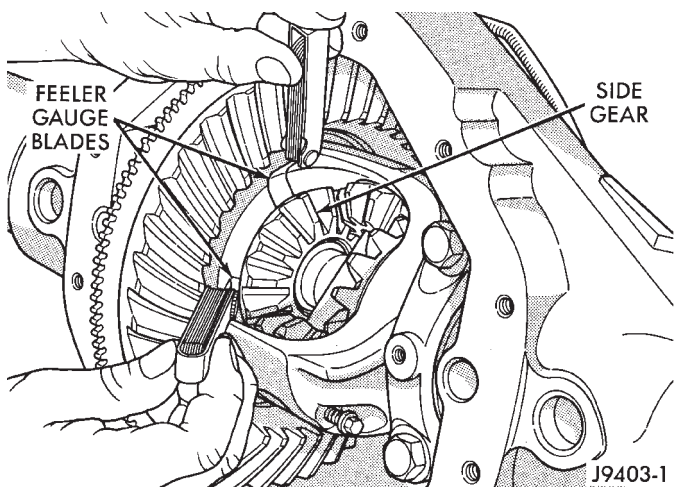

Fig. 82 Side Gear Clearance Measurement
(1) Install the axle shafts and C-clip locks and pinion mate shaft.
(2) Measure each side gear clearance. Insert a matched pair of feeler gauge blades between the gear and differential housing on opposite sides of the hub- (Fig. 82).